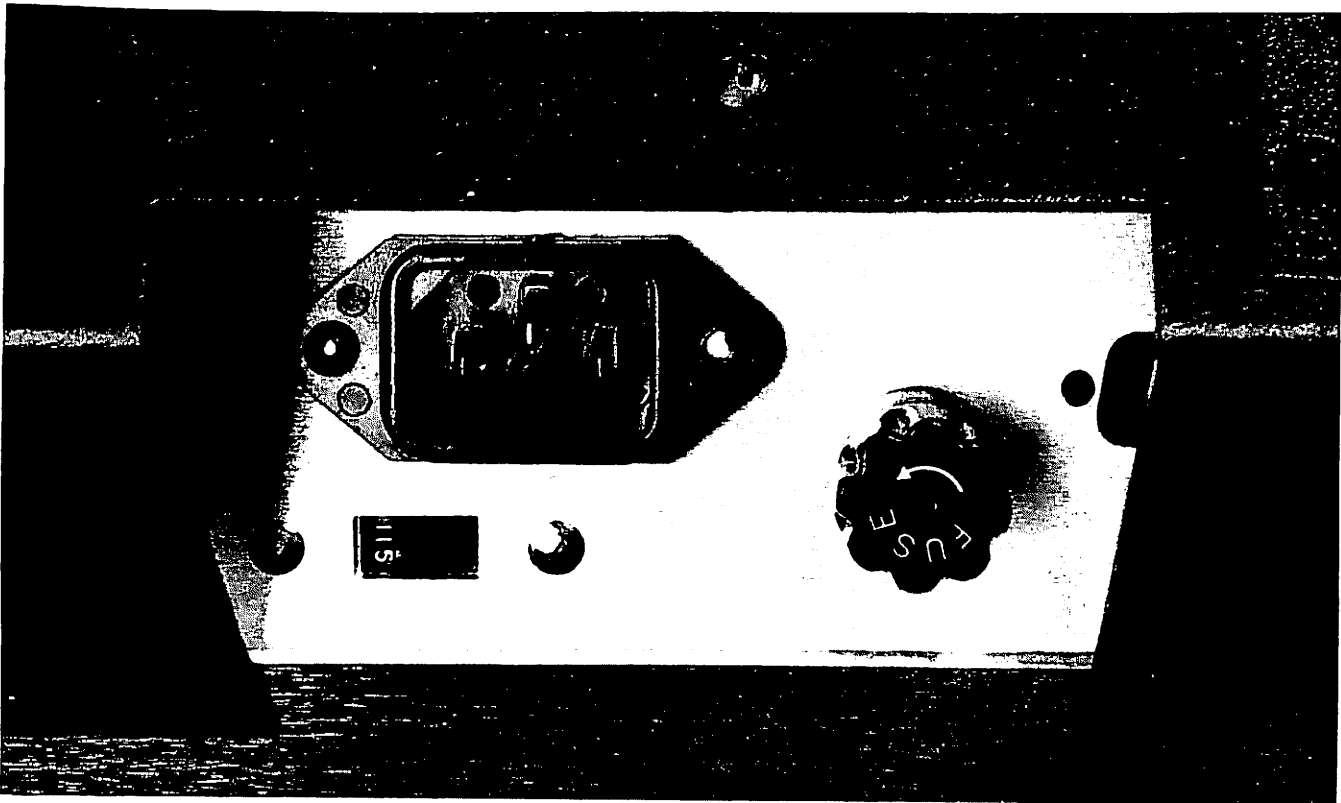

Figure I-2. Location of Three Prongs for Power Cord on Rear of Plotter
4. Remove the power cord from the plastic bag containing the Accessory Kit. Attach the female end to the three prongs located inside the opening on the rear of the Plotter (see Figure I-2). Plug the male end into a wall outlet (115 VAC \pm 10%).